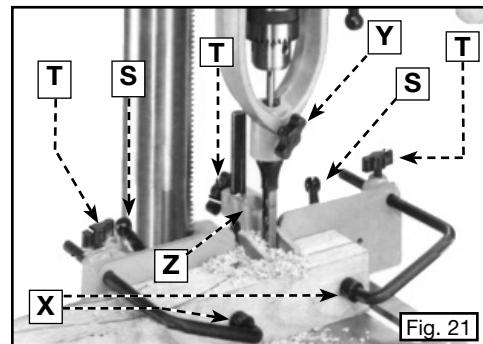

Fig. 21
Place the workpiece on the table and adjust the height of the table so that the point of the chisel clears the work about 1/2". Lower the chisel along the side of the workpiece to gauge the depth of the mortise. Adjust the depth stop of the drill press to control the depth of the mortise. Adjust the guides (X) Fig 21 to hold the work against the fence (Y), tilting them if necessary. Lower the hold-down (Z) against the top of the work. This hold-down should hold the work in place, but should also allow the workpiece to slide to its next position. These hold-down arms are independently adjustable. Once you have them adjusted, tighten the thumb screws (T).
Loosen the locking levers (S) Fig. 21 that hold the mortising attachment fence to the drill press table. Shift the fence forward or toward the column to bring the workpiece to the desired position under the mortising chisel. Tighten the locking levers.
Slide the workpiece along the fence to ensure that the cuts will be aligned. Loosen the lock handle (Y) Fig. 21 and turn the chisel in the holder (if necessary) to make its faces square with the cut. Tighten the lock handle (Y).